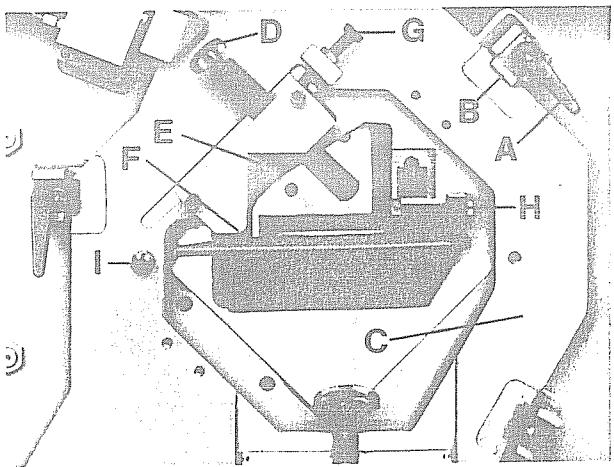

Fig. 38: Hold-down KBLH 500/700: design for PMG blades
- KBLH 500/700: Loosen clamping lever "A", push supporting bracket "B" outwards, and then again. Remove hold-down plate "C" to the front (Cf. fig. 38).
6. Hold-down - KBLH 500/700 (cf. fig. 38)
In case the cut will not been done at exactly right angle or 45° , adjust by means of the screws "H" (for 90°) and "I" resp., or slightly shift the pressure piece (for 45° cuts). Cf. fig. 38.